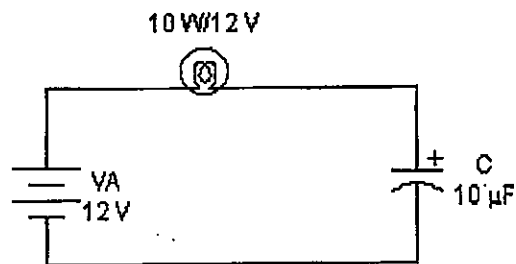

Fig 2.2
- 8- Set up the circuit of Figure 2.2. Be sure to observe polarities.
- 11- Remove the lamp from the circuit of Figure 2.2, and connect the positive terminal of the voltage source to the positive terminal of the capacitor.